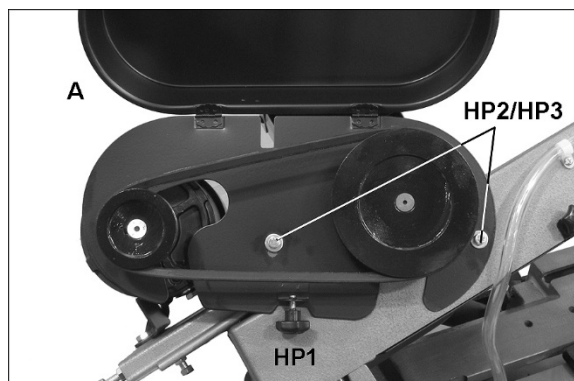

Figure 6-8: Installing Pulley Cover
6. Slide pulley cover (A, Figure 6-8) over spindles and secure with screws and washers (HP2/HP3), using 10mm wrench.